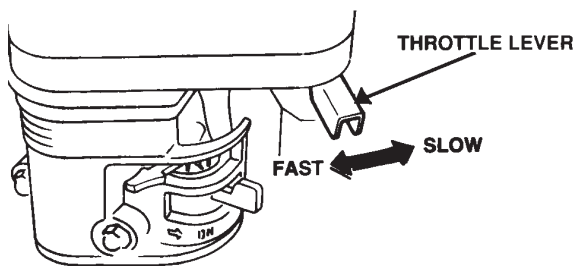

Figure 30. Throttle Lever
2. Place the **engine throttle lever** (Figure 30) in the **SLOW** position, and listen for the engine speed to decrease.
2. Move the engine throttle lever to the idle (**SLOW**) position (Figure 30, 33).